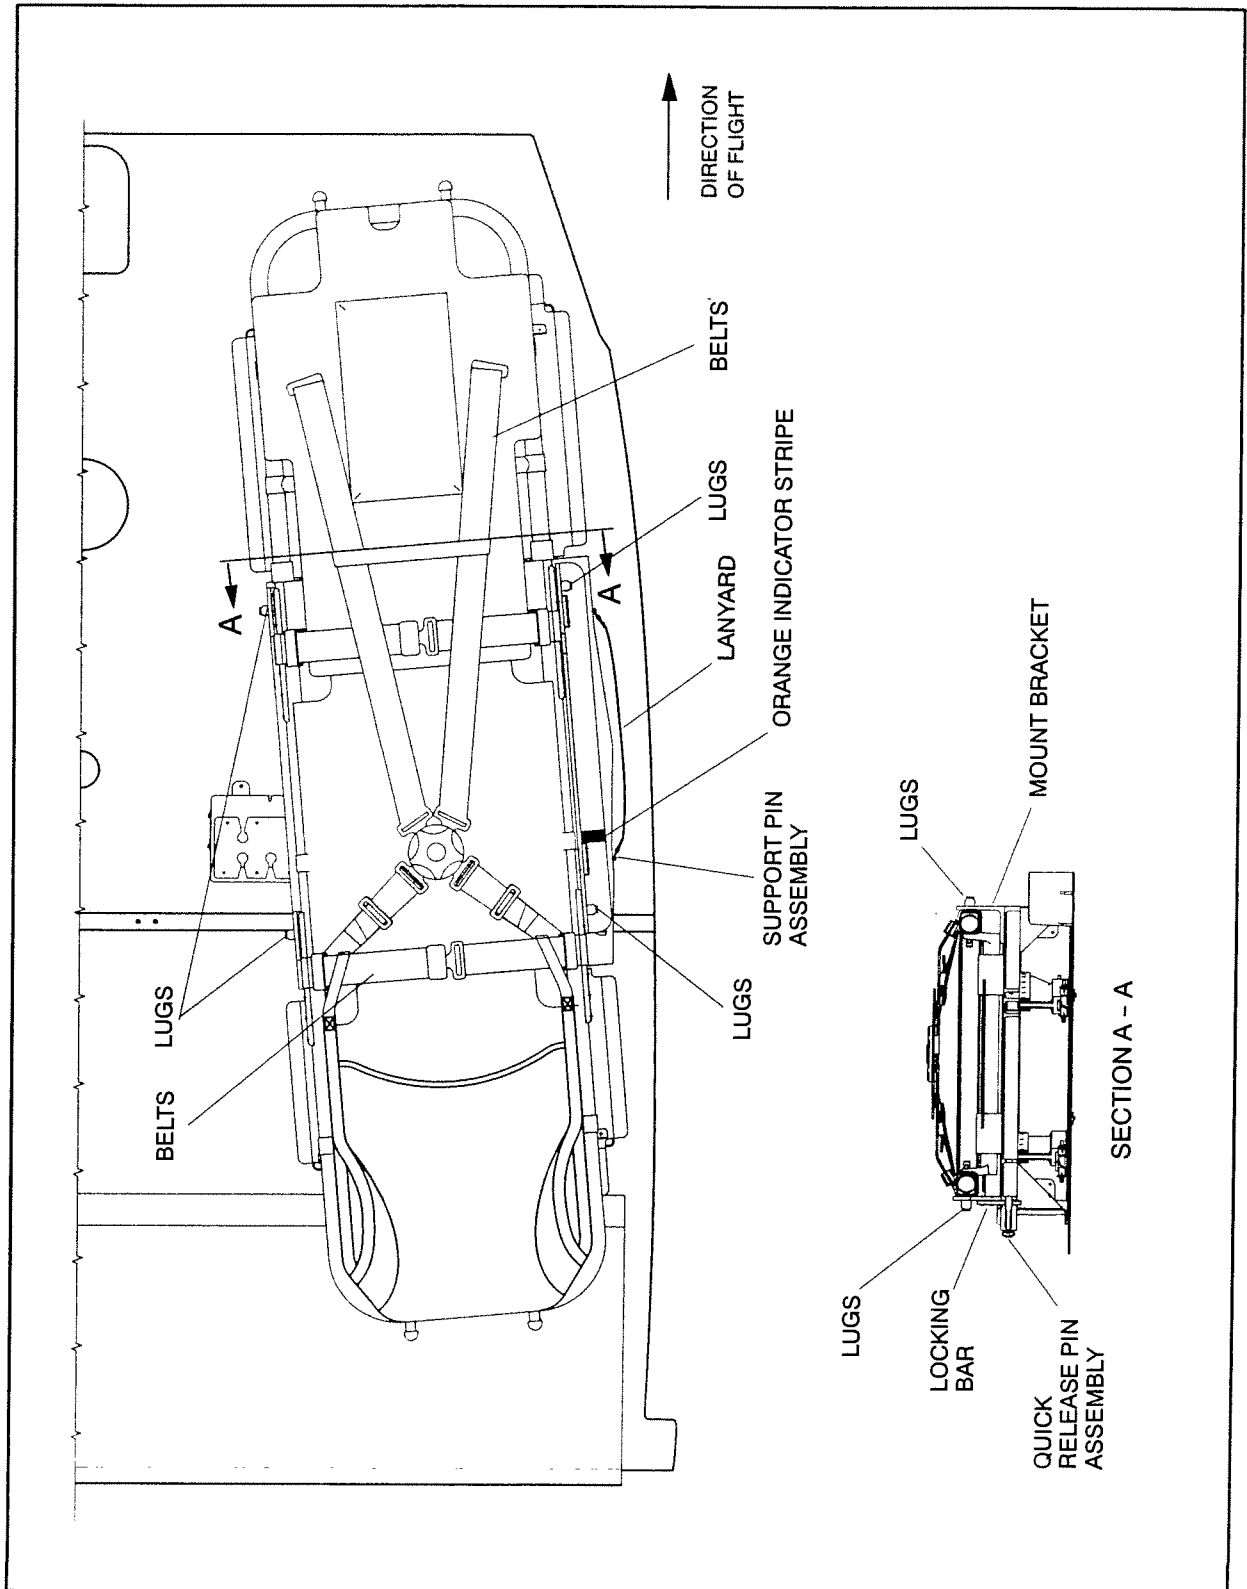

Figure 4 Location of the Litter (7 place shown, 8 place similar)
- a. Disengage the support pin assembly (2 places) using the lanyard located on the outboard side of the MID support assembly and remove the locking bar assembly. Refer to Figure 4, Section A-A.
- f. Fit the two inboard lugs on the litter into the holes in the two mount brackets on the MID support. Refer to Figure 4.